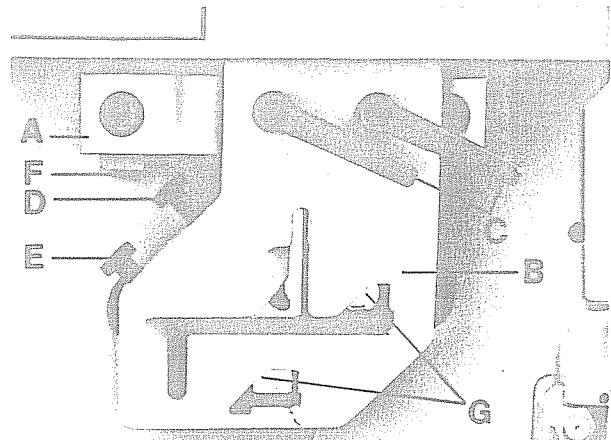

Fig. 46: Hold-down KBLH 300
- a) KBLH 300: Loosen clamping levers "B", and push the hold-down plate "C" off the stop rail (Cf.fig. 46).
(Cf. fig. 46)